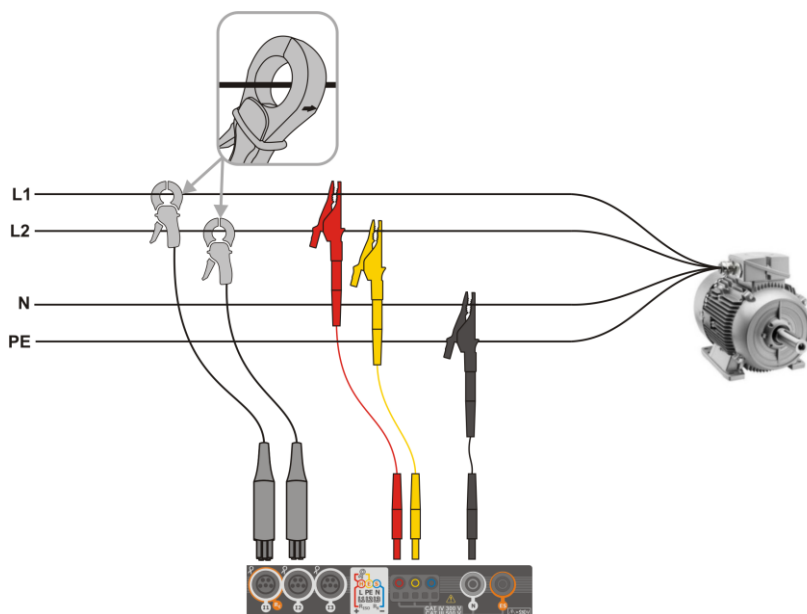

Fig. 5.5 Wiring diagram – 2-phase
- 2-phase (split-phase) with split-winding of the transformer) (Fig. 5.5),